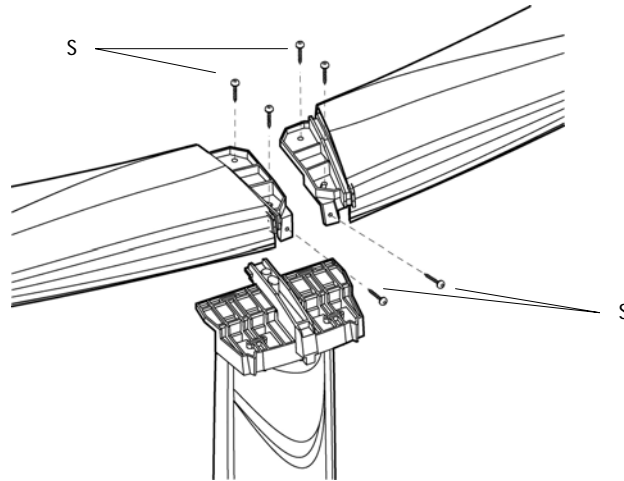

Figure 2.1
Position and place the top rails as indicated in (figure 2.1). The slots on the top rails should line up with the holes on the joining plates. Insert the top 3/4-inch screws (S) without tightening them too much.